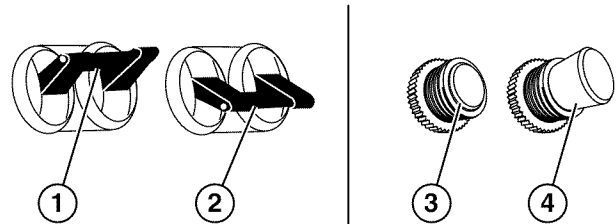

Figure 21 – Breakers
1. Make sure the circuit breakers are properly set (*see Figure 21*).